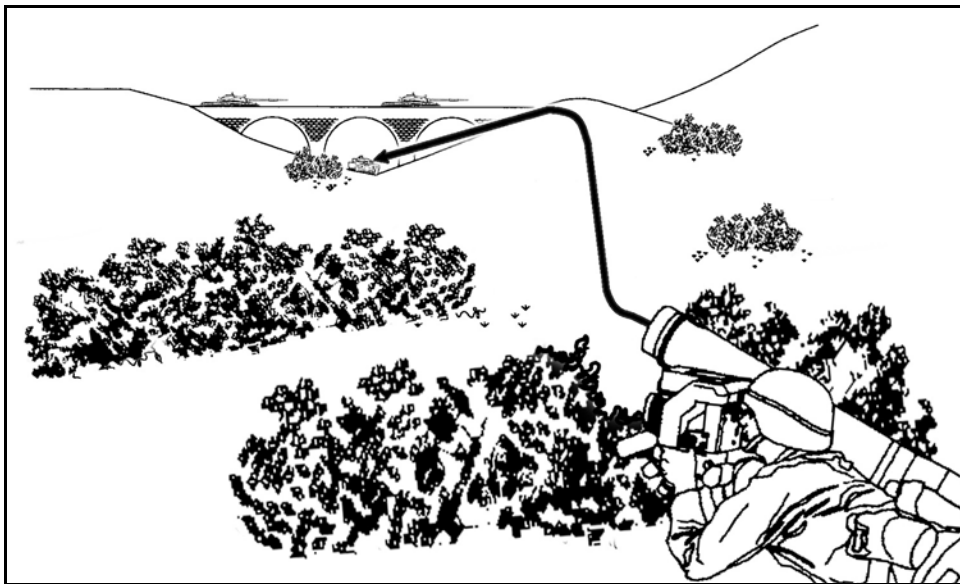

Figure 1-28. Direct attack mode.
(1) The direct attack mode can be selected only after seeker cooldown and before lock-on. The gunner pushes the attack select (ATTK SEL) switch on the right handgrip to change attack modes. In the direct attack mode, the missile flies on a more direct path to the target. The missile impacts and detonates on the side (front, rear, or flank) of the target Figure 1-28). The minimum engagement distance is 65 meters.